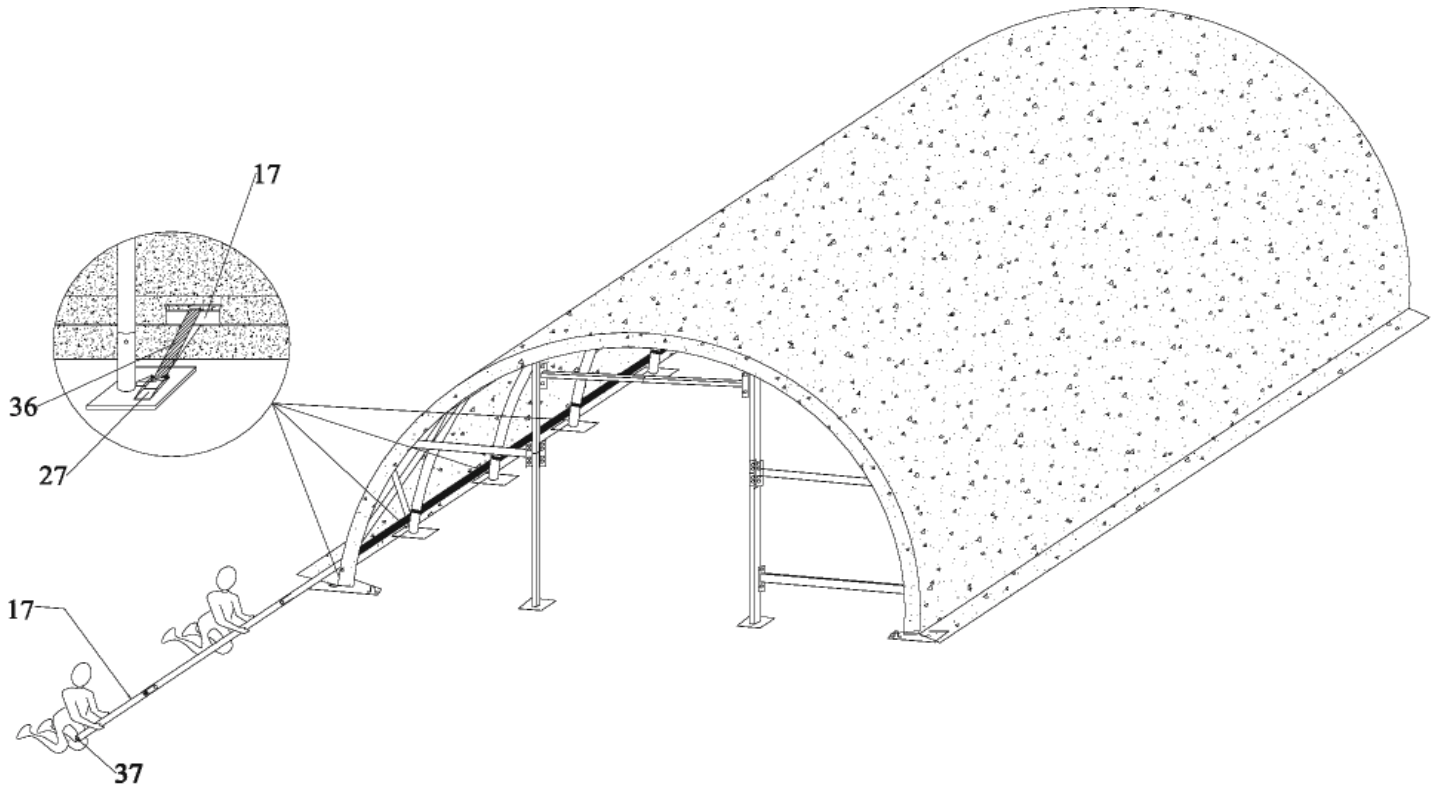

Figure 9
Center Main Cover over Frame assembly both side-to-side and End to back. Next insert Tensioning Tube Plastic Caps (37) into the ends of the Tensioning Tubes (17) as shown in Figure 9. Insert the Tensioning Tubes into the pockets in inside edge of Main Cover on each side. Align one side of Main Cover evenly End to back. Put Band for Tie Down Ratchets (36) over Tensioning Tubes at each Base Flange along one side. Bands do not attach to Tensioning Tubes, but loop around and secure at both ends on ratchet.